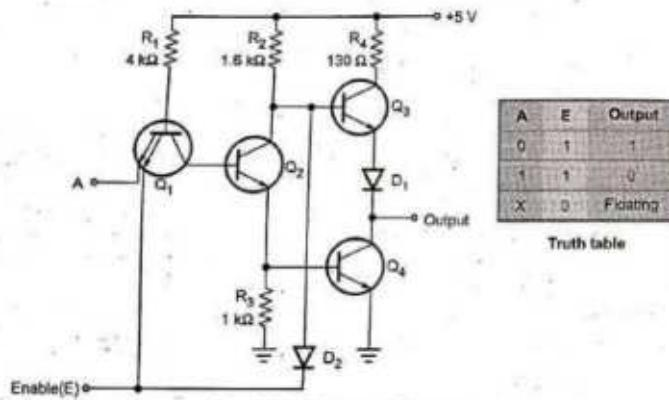

Fig. 3.3.14 Tristate TTL Inverter
- Fig. 3.3.14 shows the simplified circuit for tristate inverter. It has two inputs A and E.